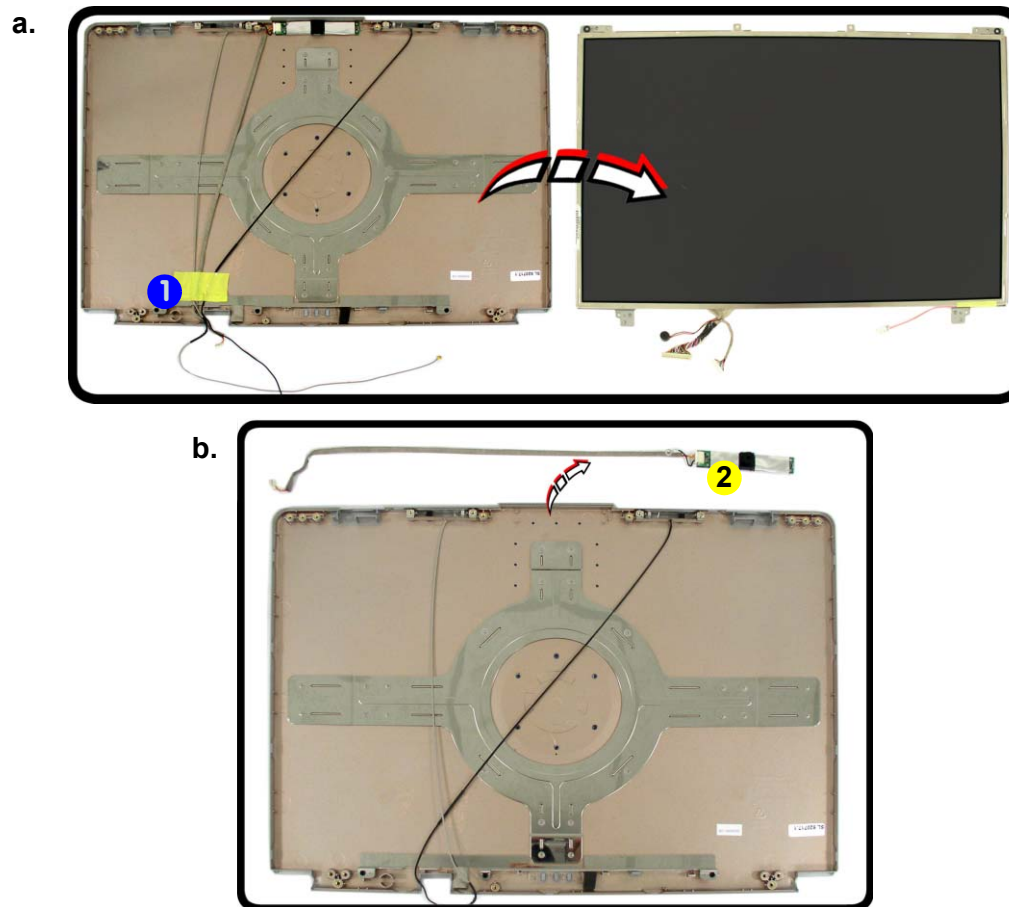

Figure 24
2. If the camera cable is taped down (e.g. as in Figure 24 at point ①) lift the tape up to release the cable, then carefully remove the camera module ②.